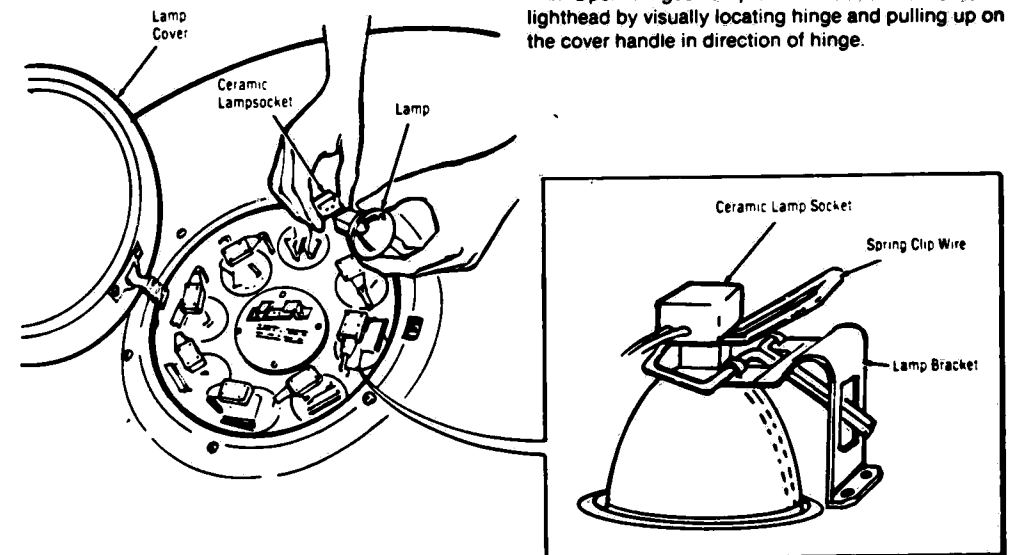

Figure 4-1. LAMP REPLACEMENT.
4.2 LAMP REPLACEMENT PROCEDURE (See Figure 4-1)